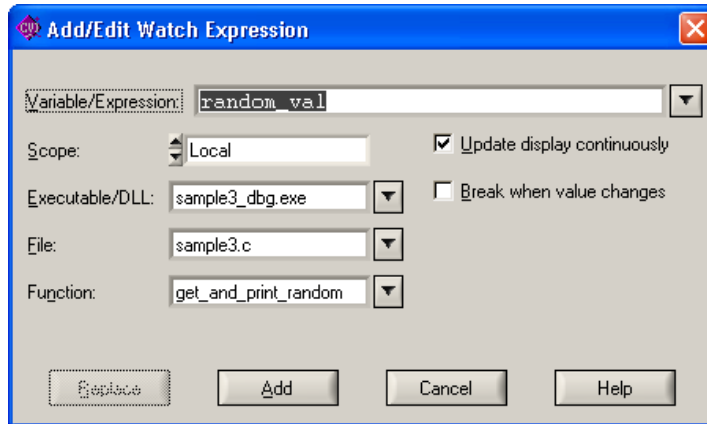

Figure 4-4. Add/Edit Watch Expression Dialog Box
- Select **Options»Add Watch Expression** to indicate that you want to assign the `random_val` variable to the Watch window. The dialog box shown in Figure 4-4 appears.